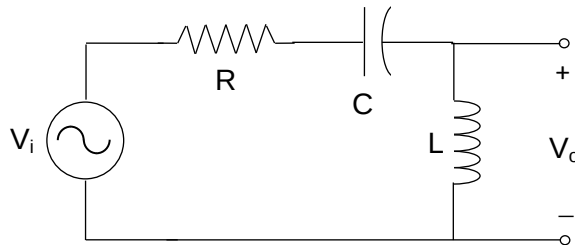

Figure 1. High-pass RLC circuit.
In this part of the lab assignment, we use the transfer function to obtain a second order RLC high pass filter's amplitude and phase responses as a function of frequency, as well as the filter's step response. We then design and build the circuit (shown in Fig. 1) and verify that the experimental responses match those predicted by the circuit's transfer function.
- For the high-pass RLC circuit shown in Fig. 1, use your knowledge of the frequency-dependent behavior of circuit components to predict the output voltage V_o when the input frequency $\omega = 0$.
- The denominator of the transfer function for a 2nd order circuit is $D(s) = s^2 + 2\zeta\omega_n s + \omega_n^2$, where ω_n is the natural frequency, and ζ is the damping factor. The circuit is overdamped when $\zeta > 1$, critically damped when $\zeta = 1$, and underdamped when $\zeta < 1$. Using these facts, choose component values R , L and C for the 2nd order circuit in Fig. 1 such that the natural frequency $f_n = 20\text{kHz}$, and the damping factor $\zeta = 0.2$.
- Construct the circuit in Fig. 1, using the component values you chose in part (e) of the pre-lab. Measure and record the actual values of L and C . *Important note: You should leave*
out the 50 Ω resistor R when you build the circuit in Fig. 1. The signal generator's internal 50 Ω source resistance will serve as the resistor R .